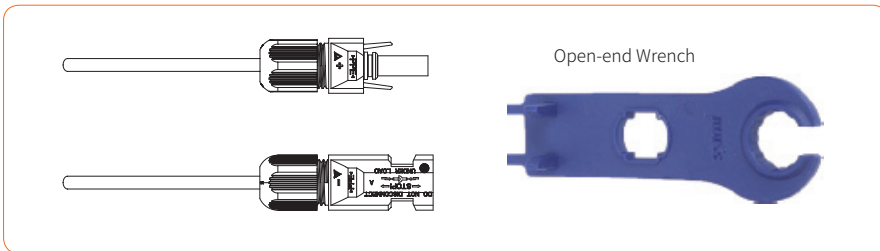

Figure 4-12
- ⑤ Insert the positive and negative cables into the corresponding positive and negative connectors, pull back the DC cable to ensure that the terminal is tightly attached in the connector.
- ⑥ Use an open-end wrench to screw the nut to the end to ensure that the terminal is well sealed, as shown in Figure 4-12: